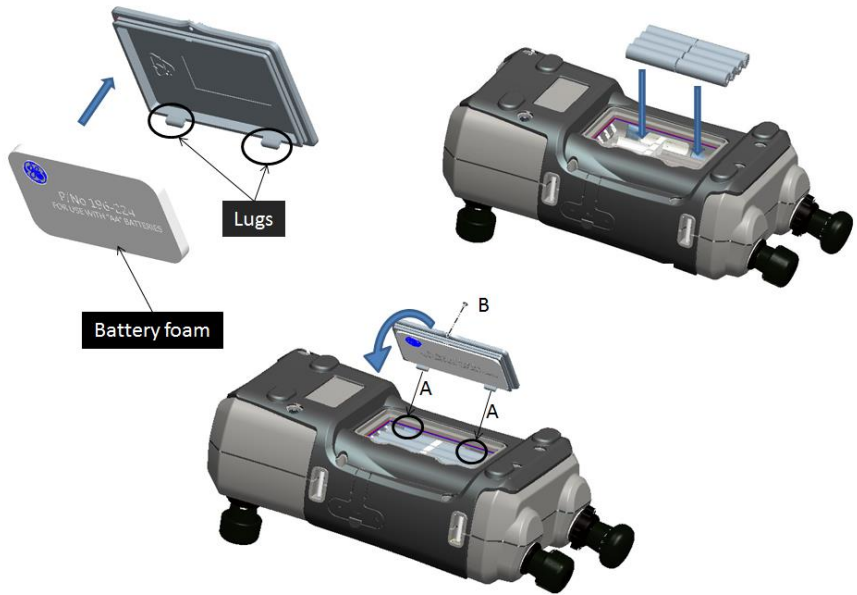

Figure 1-2 Fit Dry Cell Batteries
7. Replace the battery cover by pressing the lugs inside the slots (A) and bring down the cover, securing by tightening the fixing screw. (See *Figure 1-2*).